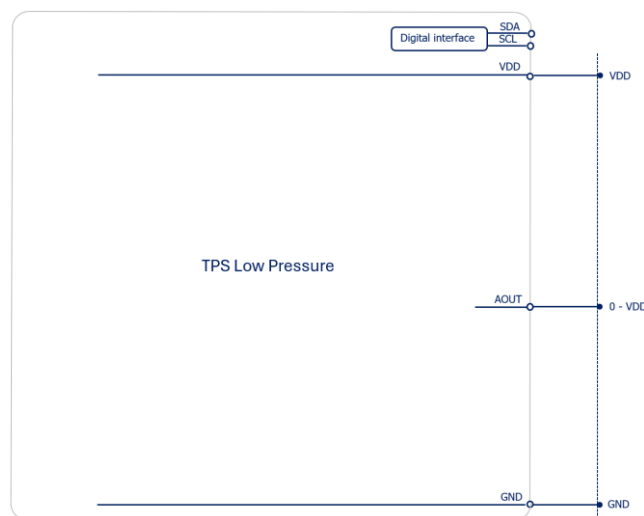

Figure 13: Ratiometric analog output
1. Following the standard communication for a three-pin module, AOUT is connected to the SDA pin, as depicted in the image above (Figure 13).